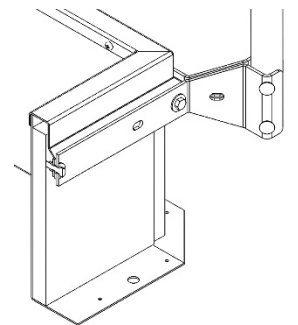

Figure 3
2. The railing brackets are designed for mounting on the counterflash of the roof hatch, figure 3. Do not mount brackets through the roof hatch curb or through roofing material.
4. Mark the mounting holes on each corner and drill 1/2" diameter holes. Remove 3/8"-16 nut and bolt (20, 30) from the bracket halves (10).
5. Fasten to the corner on counterflashing using 3/8"-16 x 3/4" bolts (30), washers (40), and threaded nut plate (50), which is placed behind the counterflash for quick, easy installation.
- b. Align and hold the threaded nut plate (50) behind the counterflash.
- c. Screw the 3/8"-16 x 3/4" bolts (30) and washers (40) through the bracket and into the threaded nut plate.
8. Insert the 35" upright post (60) into the installed brackets and insert the 3/8"-16 x 3" bolts (70). Tighten the bolts using the 3/8"-16 nuts (20).